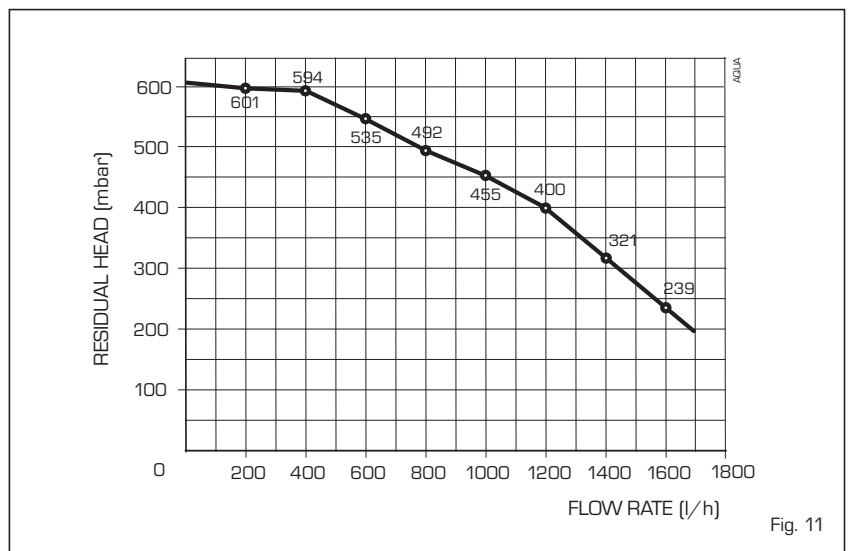

Fig. 11
The head available for the heating plant is shown as a function of the flow in graph in fig. 11.
3.3 Pump high efficiency diagnose and remedy (fig. 11/a)